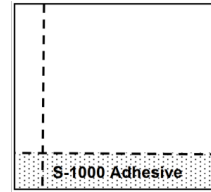

Figure 2: Adhesive Bond
- Apply the Adhesive in 2' or 3' bands (Figure 2) being careful not to cover the chalk lines. Do not apply more adhesive than you can cover within 45 minutes. Allowing a 10-minute open time and fitting the border tile tightly will reduce tile shifting and adhesive oozing. **DO NOT** allow the adhesive to dry completely.